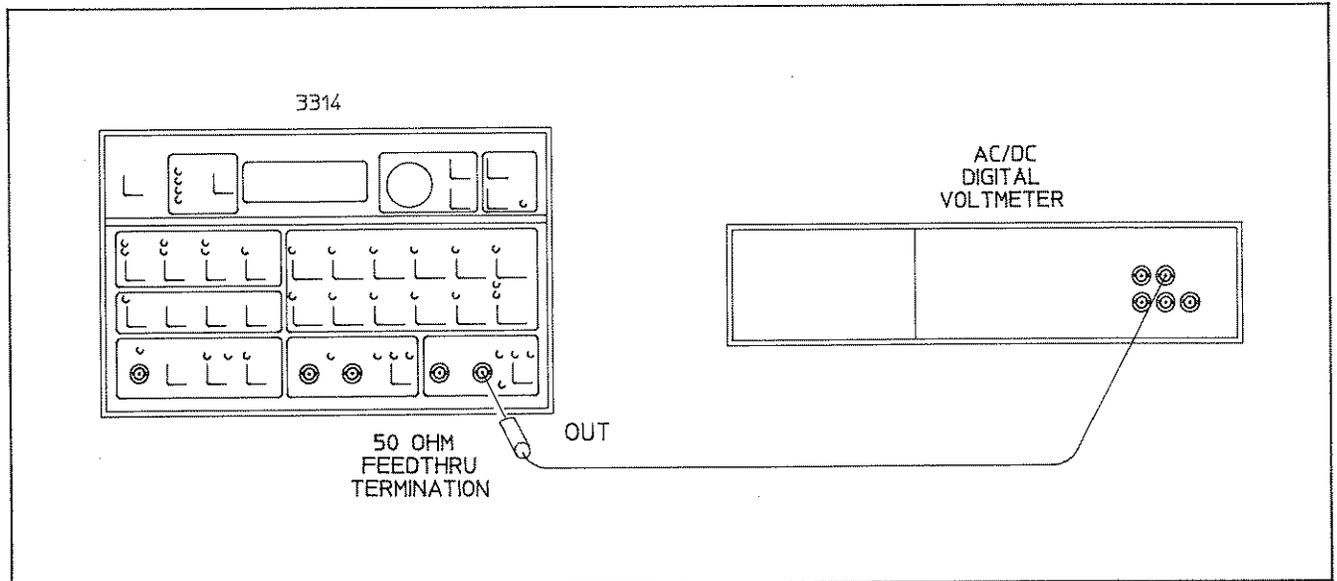

Figure 4-13. Amplitude Accuracy
D. Connect the 3314A to the Digital Voltmeter as shown in Figure 4-13.